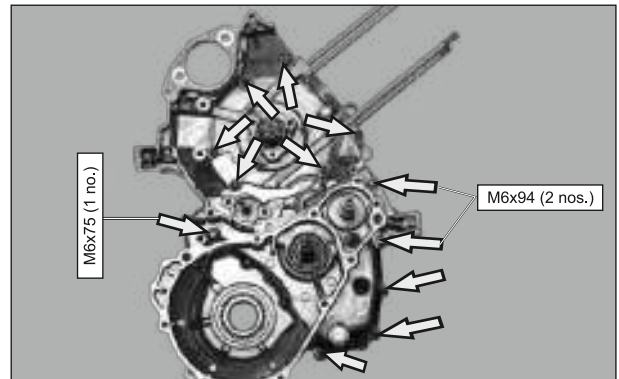

Fig. 3.79
- Loosen & remove the 9 nos. hexagonal flange bolt of M6X50 from the crank case LH.(A) (Fig. 3.79)
- Loosen and remove the 2 nos. hexagonal flange bolt of M6X94 from the crank case LH.(B) (Fig. 3.79)
- Loosen and remove the 1 no. hexagonal flange bolt of M6X75 from the crank case LH. (C) (Fig. 3.79)